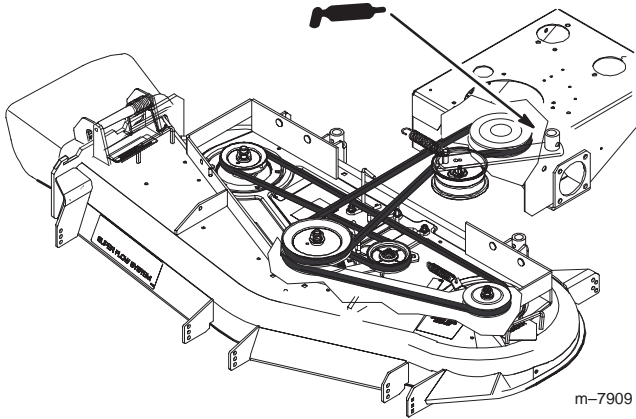

Figure 39
2. Grease the idler arm pivot (Fig. 39).